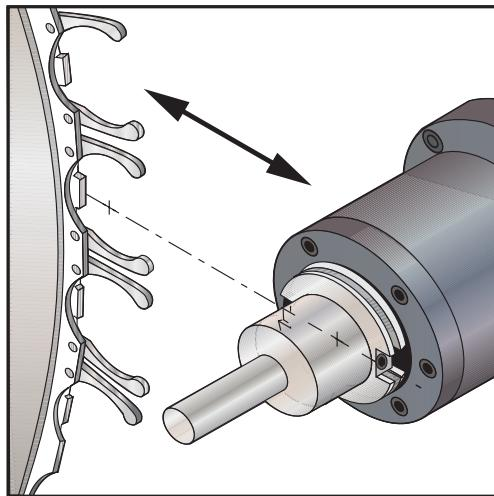

Figure 6
27. Handle Jog the spindle in the -Z direction (towards the front of the machine) and align the tool changer's fingers with the groove in the tool holder. Handle jog the spindle in the +X direction (towards the tool changer) and slowly move the tool holder into the extractor fingers. **STOP AND RE-ALIGN IF ANY MISALIGNMENT IS FOUND.** Continue to move the tool holder into the fingers until the drive notch on the side of the tool holder is approximately 0.050 in. from bottoming out on the carousel's alignment key. Refer to Figure 6.